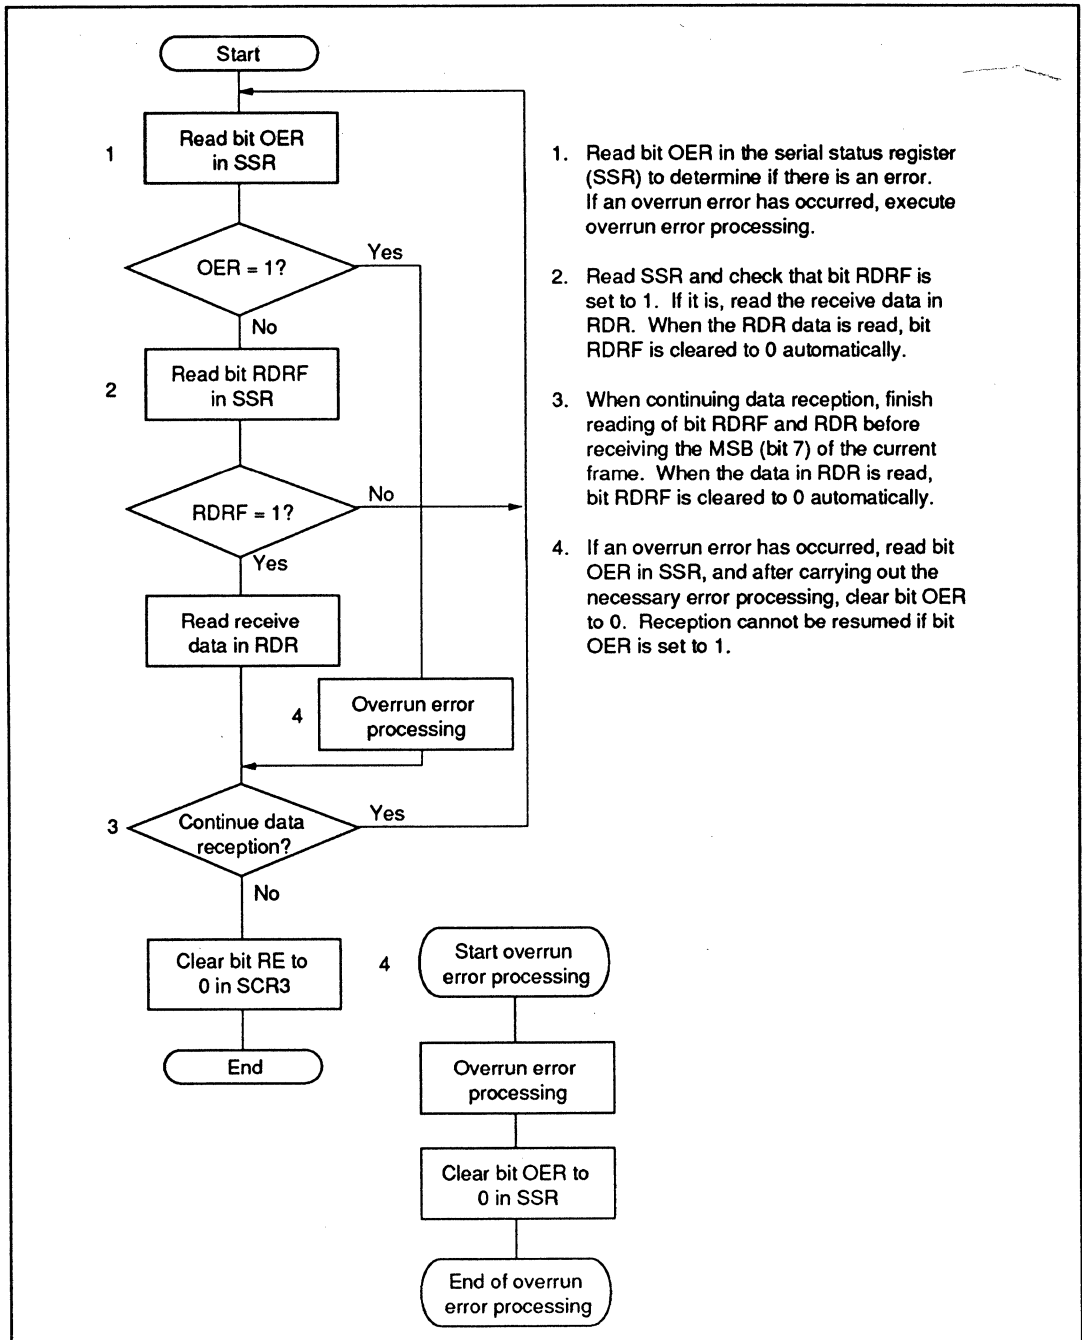

Figure 10-18 Example of Data Reception Flowchart (Synchronous Mode)
Figure 10-18 shows an example of a flowchart for data reception. This procedure should be followed for data reception after initializing SCI3.
4. If an overrun error has occurred, read bit OER in SSR, and after carrying out the necessary error processing, clear bit OER to 0. Reception cannot be resumed if bit OER is set to 1. See figure 10-18 for details on overrun error processing.